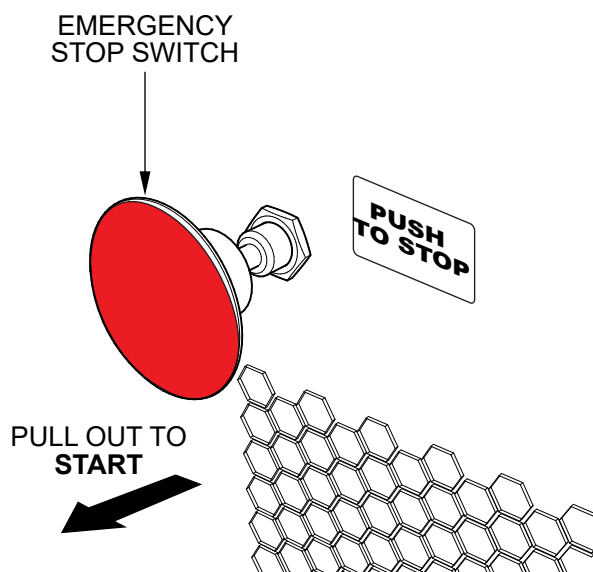

Figure 19. Emergency Stop Switch (Start Position)
- Locate the emergency stop switch (Figure 19) on the engine cover. Pull this button outward to allow engine starting.